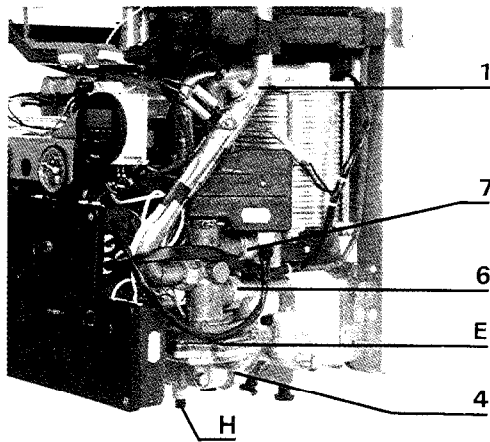

Fig. 56
- b) Isolate mains water supply - drain from valve beneath the change over valve (see section 8.11 fig. 56 (H)).
- f) Ease thermostat (C) off moulded pegs and pull off spade connections.